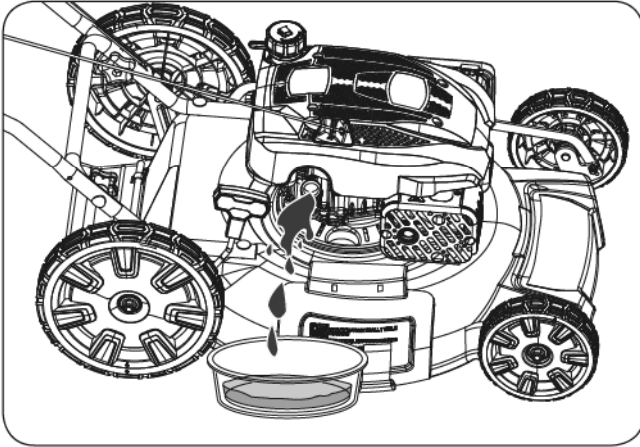

Figure 12
- Tip the machine onto its side (so that the air filter is up) to drain the used oil from the oil-fill tube. (See **Figure 12**)